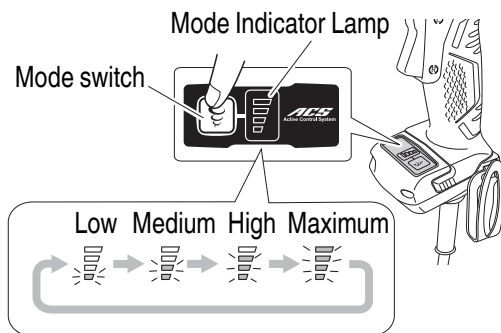

Fig. 5
3. Switching tightening mode (see **Fig. 5**)